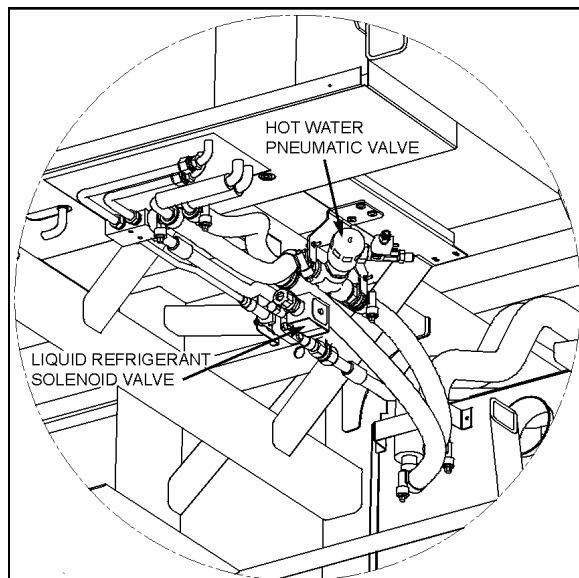

FIGURE 40: CEILING OF THE SPARE WHEEL COMPARTMENT
2. Locate the normally open water pneumatic valve on the ceiling of the spare wheel compartment (Fig. 40), move the pilot-solenoid valve red tab to close the valve.